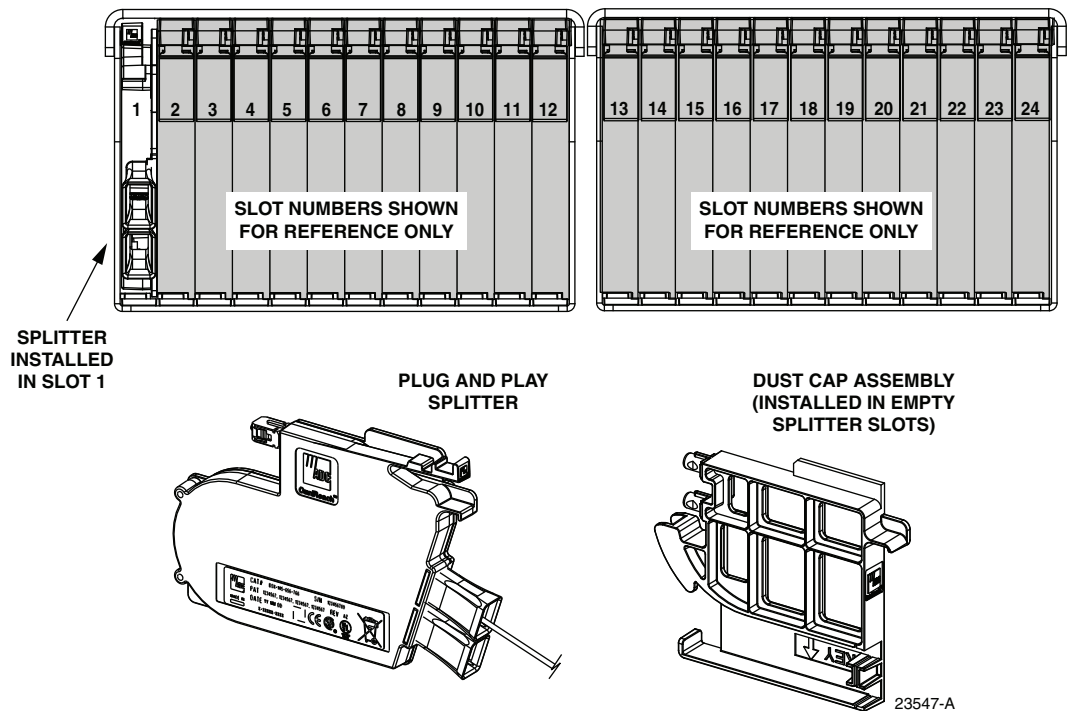

Figure 9. Splitter Module Mounting Slots
2. Locate the next available splitter mounting position as shown in Figure 9.